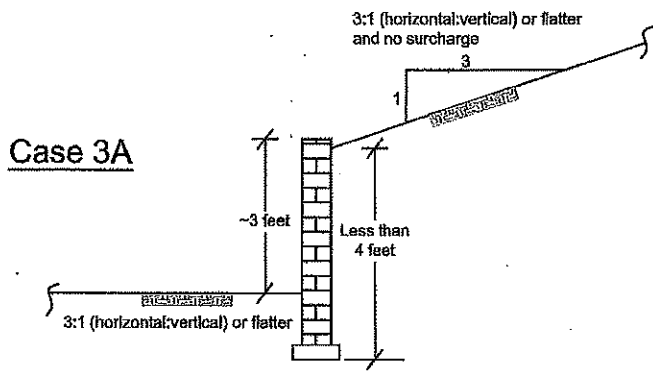

**FIGURE 2**
- Figure 2 shows examples of retaining walls requiring a building or site development permit. In most cases, a building permit is required. Retaining walls that are associated with a larger project that is otherwise subject to a site development permit will be permitted under the site development permit and will not require a separate building permit.